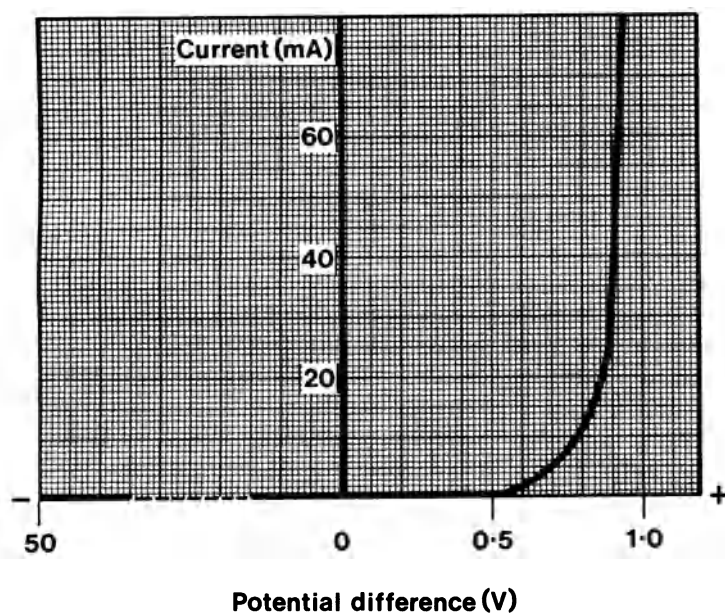

FIG. 3.58
- (i) Explain why the neon lamp flashes regularly. (3)
- (ii) Suggest two methods of decreasing the flash rate. (2)
43. Fig. 3.58 shows approximately how the current through a silicon diode varies as the p.d. across the diode is altered over a range of  $-50\text{ V}$  to  $+1.0\text{ V}$ .